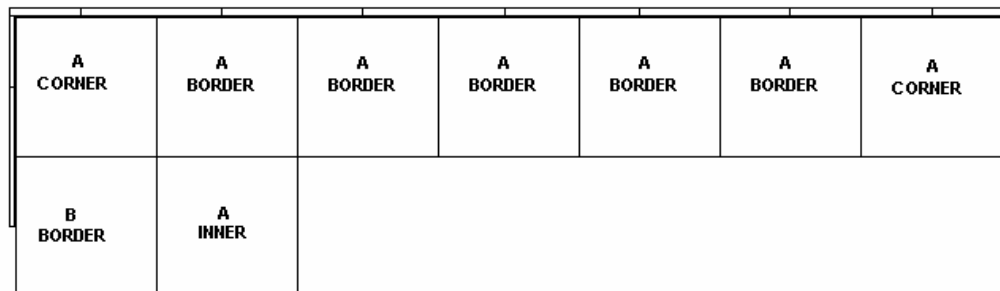

Figure 14
15. Next lock "A INNER" to RIGHT of "B BORDER LEFT" (Figure 14).